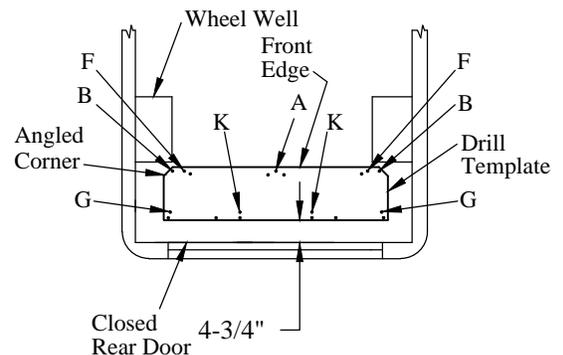

Figure 4: Drill template location (top view).
- 4-3/4" from the the closed rear doors at the center (Figure 4).